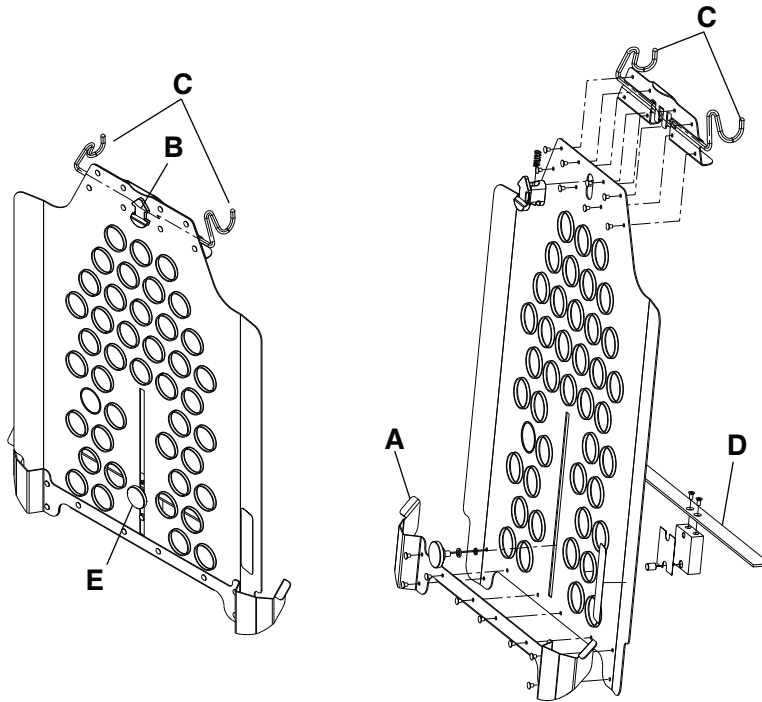

Figure 31 – X-ray cassette holder
3. Insert the lower retainer guides (A) under the Fowler backrest weldment bar (Figure 31).